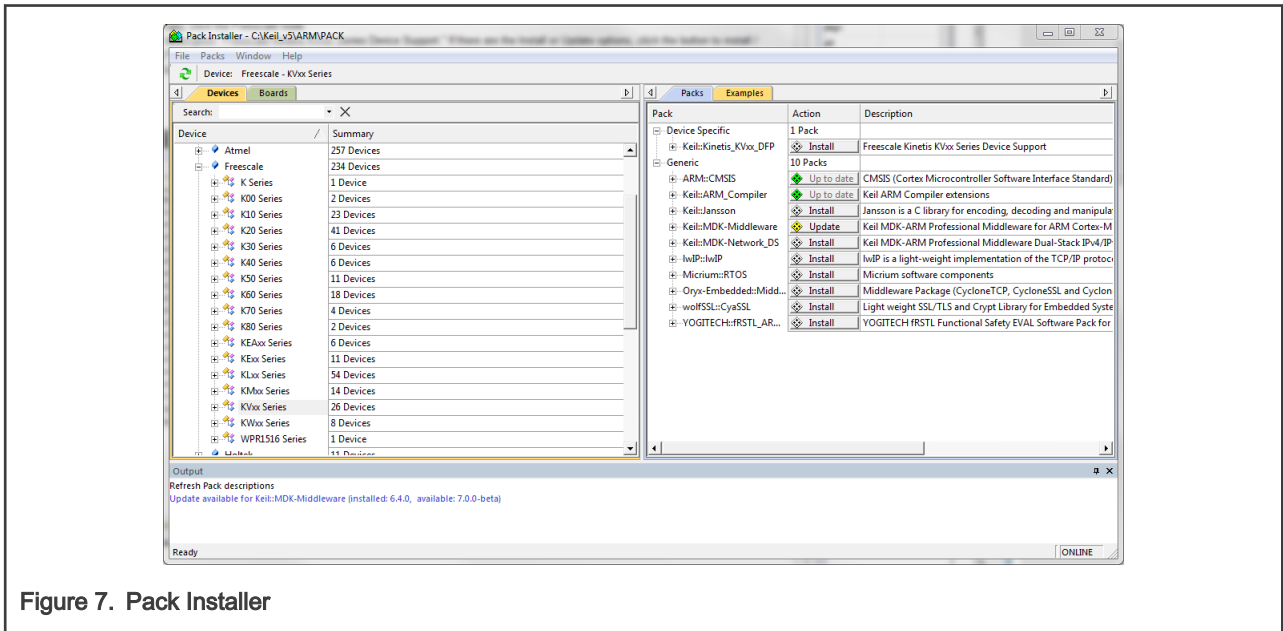

Figure 7. Pack Installer
6. Look for a node called "Keil::Kinetis_KVxx_DFP." If there are the Install or Update options, click the button to install/update the package. See Figure 7.